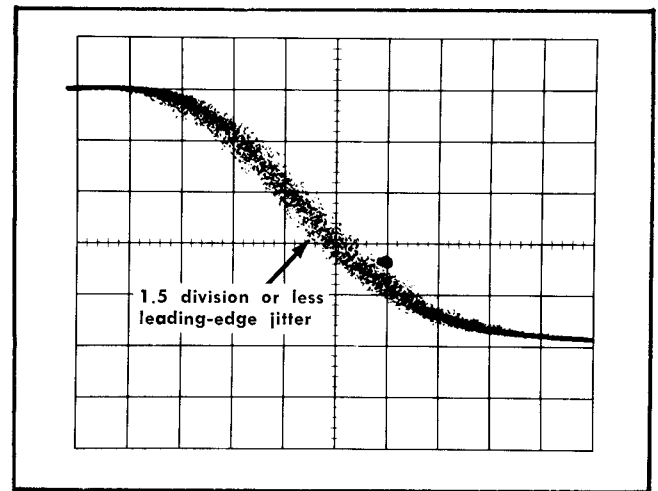

Fig. 6-17. Typical sampling system display of trigger jitter.
- c. CHECK — Rotate the MULTIPLIER control throughout its range and check for 1.5 divisions or less jitter in the leading edge of the waveform (300 picoseconds or less; see Fig. 6-17).